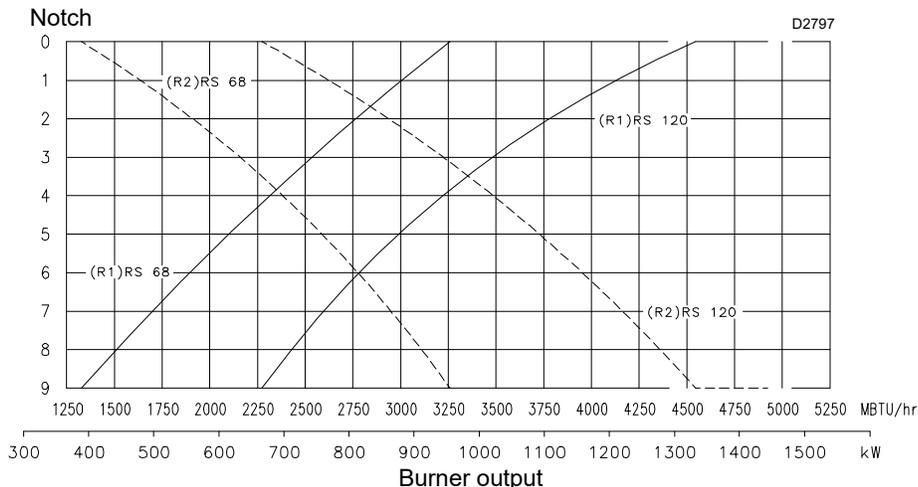
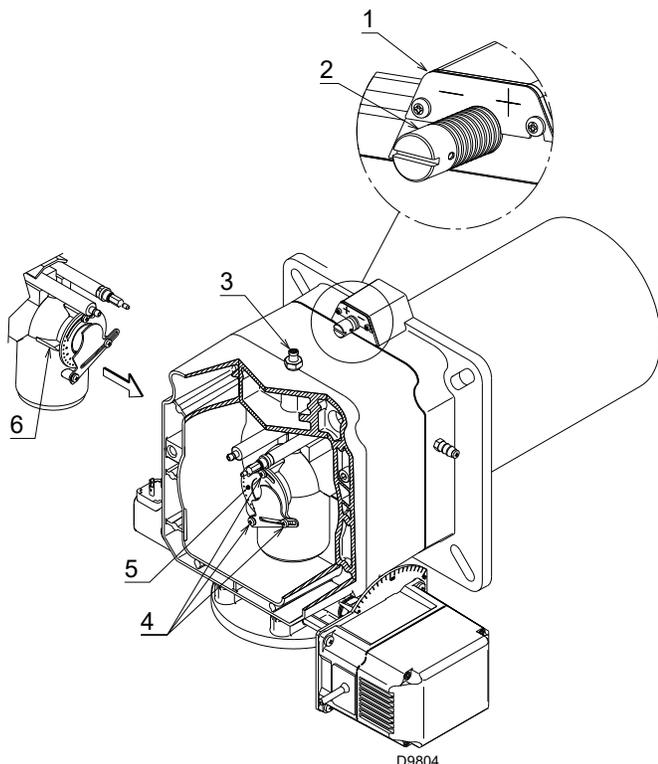

Fig. 15
Fig. 16
In the diagram of Fig. 15, find the notch at which to adjust both air and central gas/air.
Turn screw 4)(Fig. 16) until the notch identified is aligned with the front surface 5)(Fig. 16) of the flange.
To facilitate adjustment, loosen the screw 3)(Fig. 16), adjust and then lock.
- Loosen the 3 screws 4)(Fig. 16) and turn ring 5) until the notch identified is aligned with index 6).
If we consult diagram (Fig. 15) we find that for this output the adjustments are:
Diagram (Fig. 15) indicates an optimal regulation for a type of boiler seen in Fig. 3, page 10.
Continuing with the previous example, (Fig. 22, page 22) indicates that for burner with output of 3750 MBtu/hr a pressure of approximately 2.8" is necessary at test point 3)(Fig. 16). If this pressure cannot be reached, open the ring 5)(Fig. 16) to notch 4 or 5.
- Ring nut 2) (Fig. 16) adjusted as in the diagram of Fig. 15
- Gas ring 2)(Fig. 15, page 19) adjust as indicated in diagram Fig. 15, page 19
- Ring nut 2)(Fig. 16) adjusted as in the diagram of Fig. 15